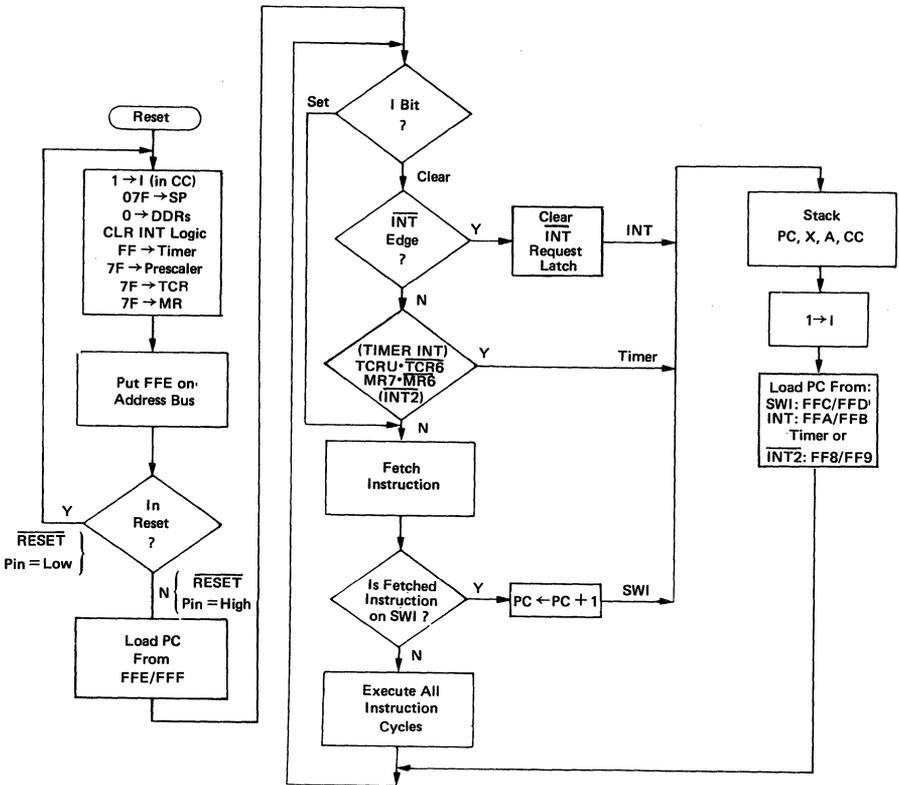

FIGURE 18 – RESET AND INTERRUPT PROCESSING FLOWCHARD
The microcomputers can be interrupted four different ways : through the external interrupt (INT) input pin, the internal timer interrupt request, the external port D bit 6 (INT2) input pin, or the software interrupt instruction (SWI). When any interrupt occurs : the current instruction (including SWI) is completed, processing is suspended, the present CPU state is pushed onto the stack, the interrupt bit (I) in the condition code register is set, the address of the interrupt routine is obtained from the appropriate interrupt vector address, and the interrupt routine is executed. Stacking the CPU register, setting the I bit, and vector fetching require a total of 11 tcyc periods for completion. A flowchart of the interrupt sequence is shown in Figure 18. The interrupt service routine must